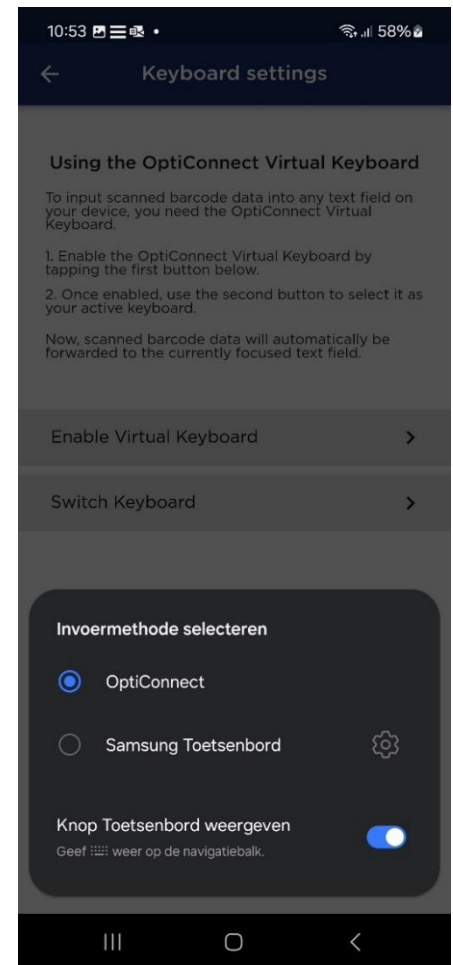

Figure 10-3: The Android *Choose input method* popup where you can switch between keyboards to use.
- Press the *Switch Keyboard* button and select OptiConnect to switch to the OptiConnect keyboard (see Figure 10-3).